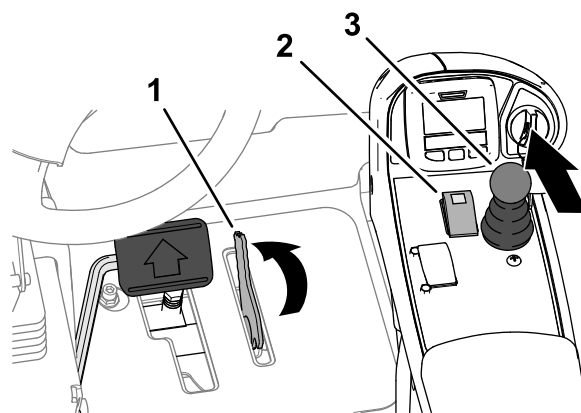

Figure 169
3. Rotate the lever for the mow-speed limiter forward to the Mow position (Figure 169).